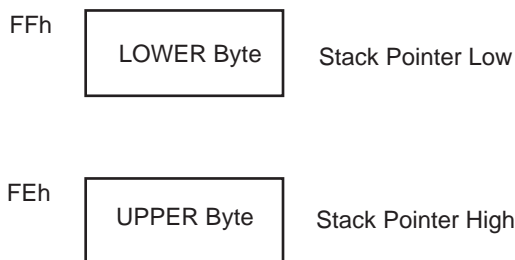

Figure 10. Stack Pointer
The register pair FEh and FFh form the 16-bit Stack Pointer (SP), that is used for all stack operations. The stack address is stored with the MSB in FEh and LSB in FFh; see Figure 10.